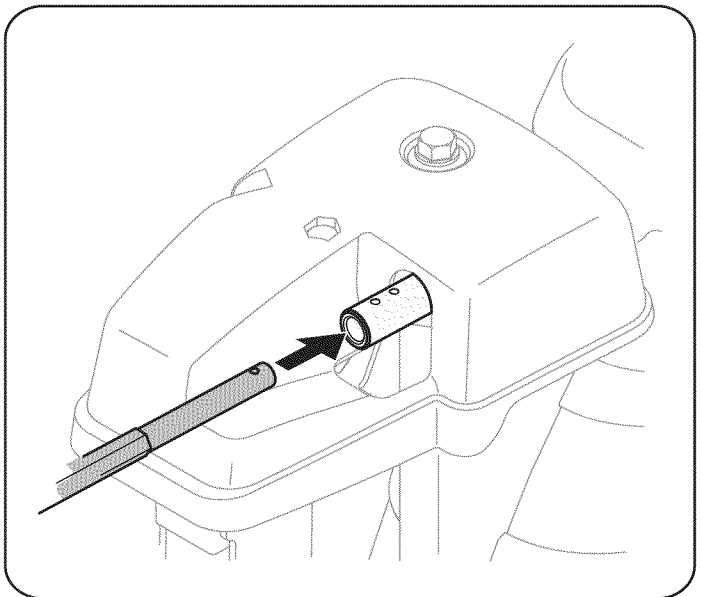

Figure 3
3. Insert the chute control rod into input of chute control head. Push rod as far into the chute control head as possible, keeping the holes in the rod pointing upward. See Figure 3.